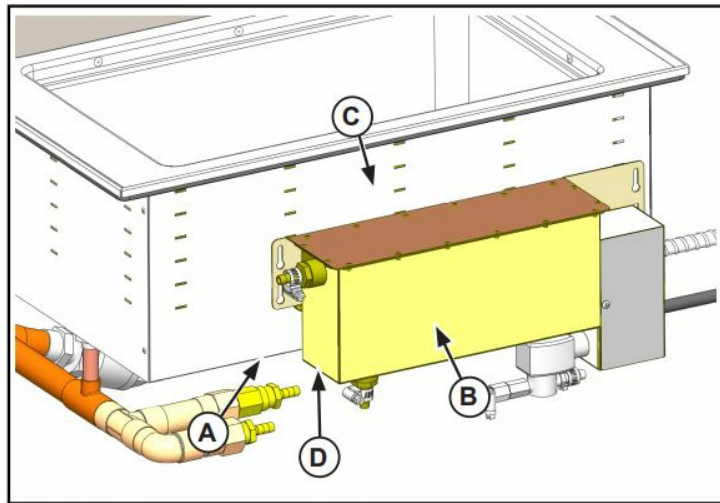

Figure 2. Water Reservoir and Well Assembly.
5. For installation with Rectangular Drop-In For initial setup, mount the Auto-Fill main body water reservoir (B) level to the bottom of any full size Vollrath hot well (C) unit outer skin. Mark and use appropriate length fasteners to mount reservoir (B) assembly in a level position (D) to the bottom of the well assembly (A). See Figure 2.
6. For use with Round Soup Drop-In: Install the reservoir (B) $\frac{5}{8}$ " (15 mm) below the bottom of a Vollrath round soup drop in unit outer skin. See Figure 2.